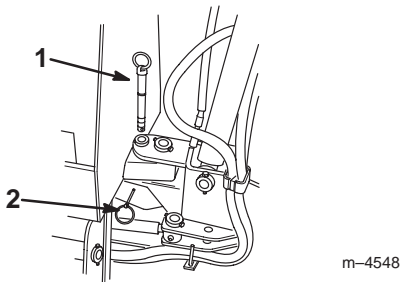

Figure 23
3. Secure the boom using the two pins removed prior to operation (Figs. 23 and 24).